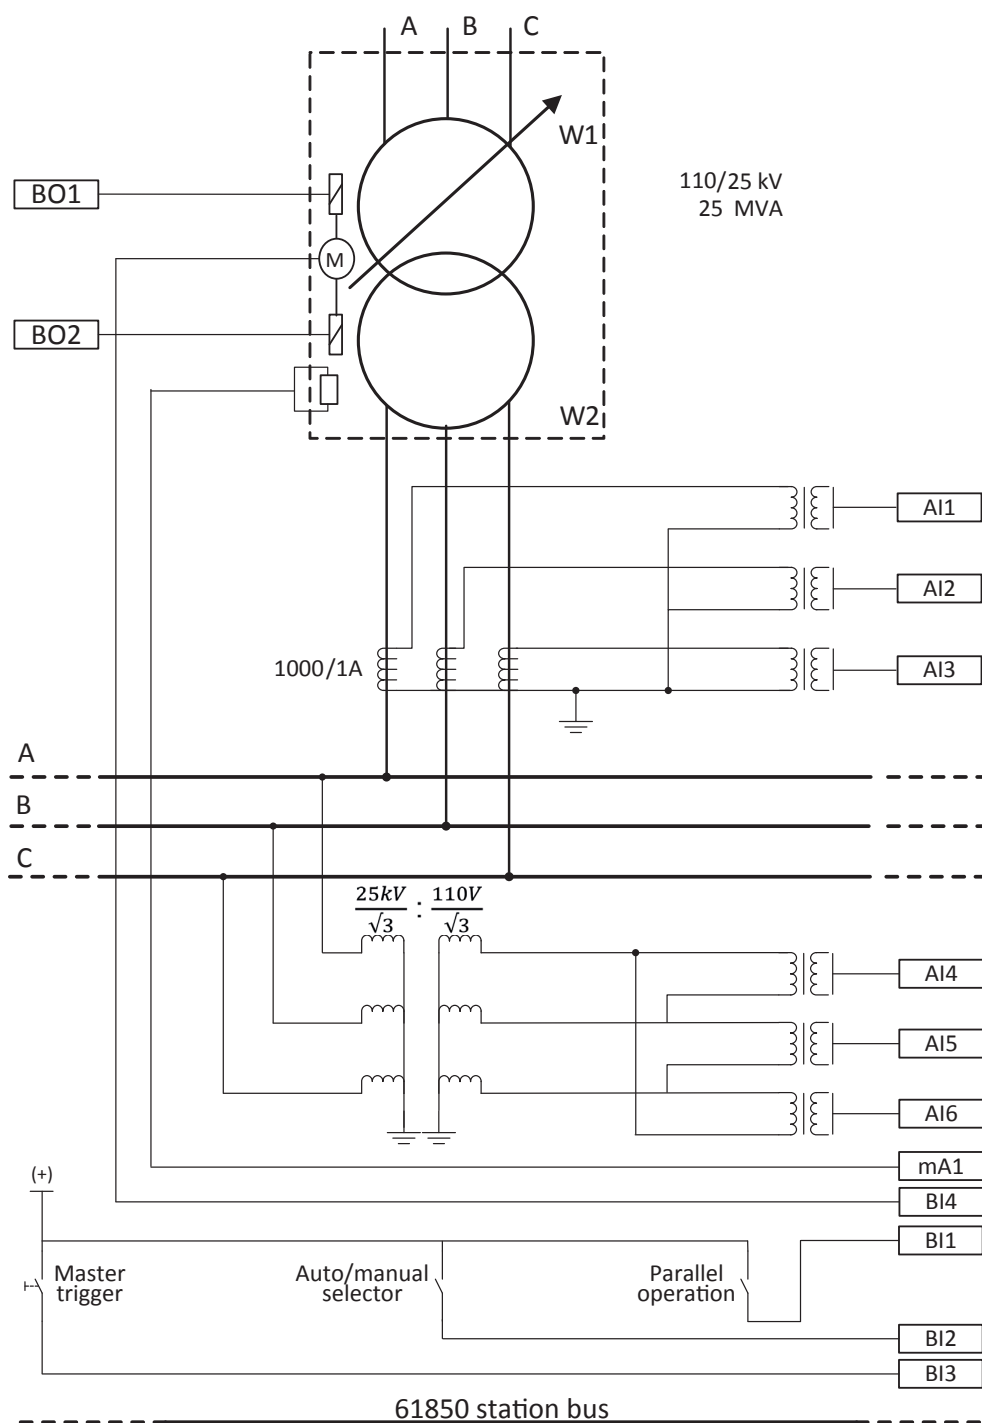

Figure 34: Relay 2 interfaces and CT/VT connections for TR2 in example case 2
Figure 34 shows the connection details of the relay's (Relay 2) analog inputs (AI), binary inputs (BI), milli-Ampere inputs (mA) and binary outputs (BO) for transformer TR2 of the example case. The CT connections for phase current measurements in all phases and the VT connection for voltage measurement on the MV side are also shown. In the example case, the tap changer position value is input as an mA input for transformer TR2 and input to TPOSYLTC.